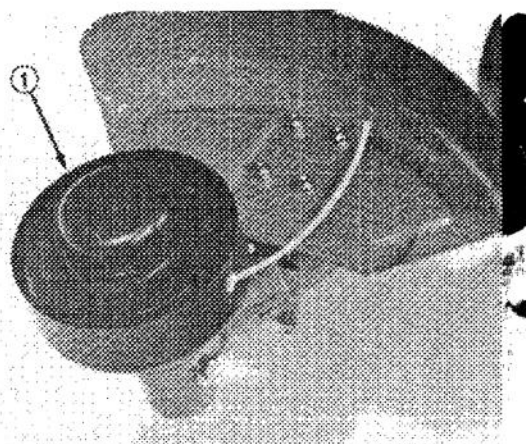

Figure 18
2. Set Tap-N-Trim head onto shaft, rotate in a counterclockwise direction (left hand thread) and tighten firmly by hand (Fig. 18).